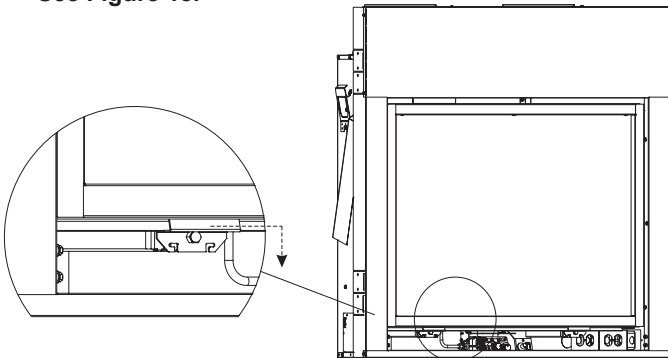

Figure 18
2. Pull latches toward you and down to release. **See Figure 18.**